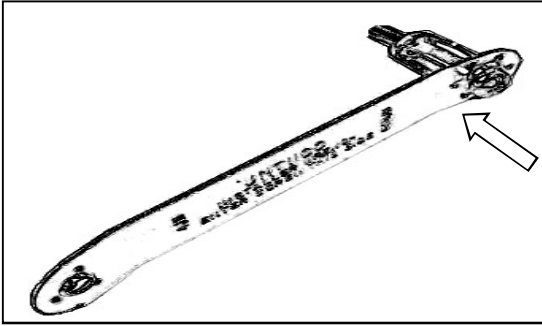

Figure 4
4. Place the bolt through the hole in the jack nut installation tool. Thread the jack nut on the bolt up to the tool. **See Figure 4**